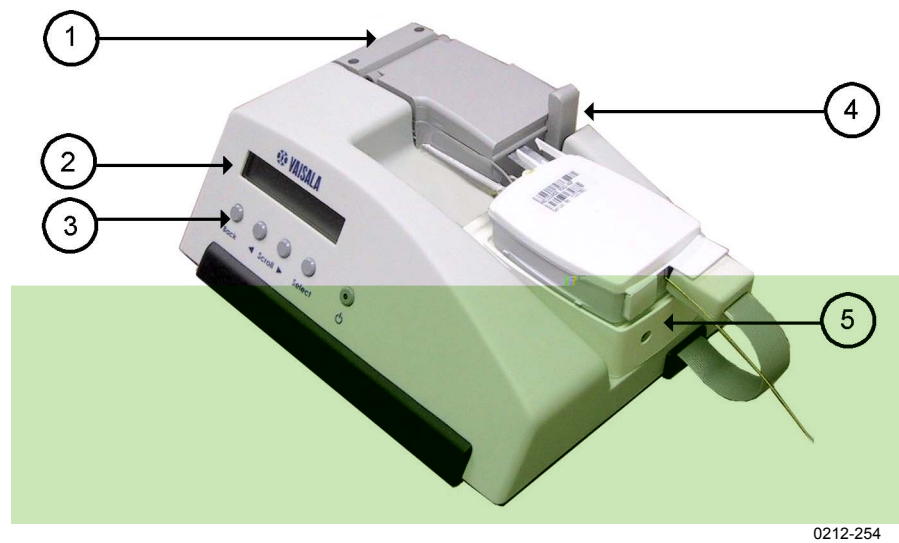

Figure 1 GC25 Ground Check Set
The following numbers refer to Figure 1 above:
1. Pull out the desiccant cartridge from the side of the chamber. For details refer to Figure 1 on page 8.